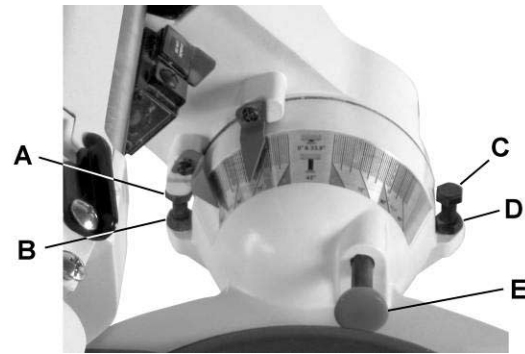

Figure 12
4. To adjust, tilt the cutting arm to zero degrees, loosen the *lock nut* (B, Fig. 12) and turn the *stop bolt* (A, Fig. 12) in or out accordingly.
6. Repeat steps 1–4 if necessary until the blade is 45° to the table, then tighten the *lock nut* (B, Fig. 12) to secure the *stop bolt* (A, Fig. 12).
1. Set the miter angle to zero degrees. Fully extend the sliding fence completely to the right then pull the bevel detent pin (E, Fig. 12) out.
4. To adjust, tilt the cutting arm to zero degrees, loosen the locknut (D, Fig. 12) and turn the *stop bolt* (C, Fig. 12) in or out accordingly.
6. Repeat steps 1–4 if necessary until the blade is 45° to the table, then tighten the *lock nut* (D, Fig. 12) to secure the *stop bolt* (C, Fig. 12).
3. Tilt the cutting arm to the 33.9° left bevel position and engage the positive stop by pushing the *bevel detent pin* (E, Fig. 12) in.